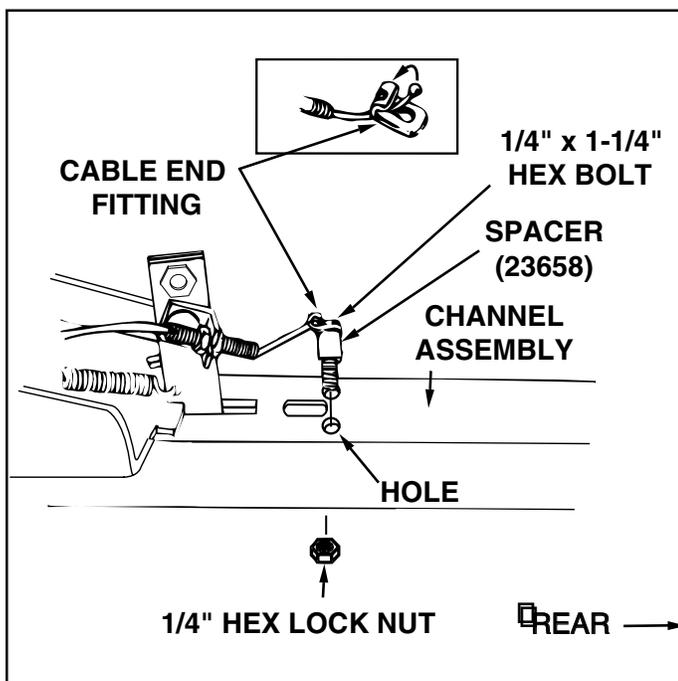

FIGURE 14 (Left Hand Side View)
- Assemble ball end of control cable up through hole in cable end fitting and pull till ball slips inside curled edge of fitting. Note: If ball wont slip under edge of curl it will need to be inserted through open end of curl. See figure 14
- Assemble 1/4" x 1-1/4" hex bolt down through the cable end fitting, the 5/8" long spacer and the left hand hole in the channel assembly. Secure with a 1/4" hex lock nut. See figure 14. **Tighten.**